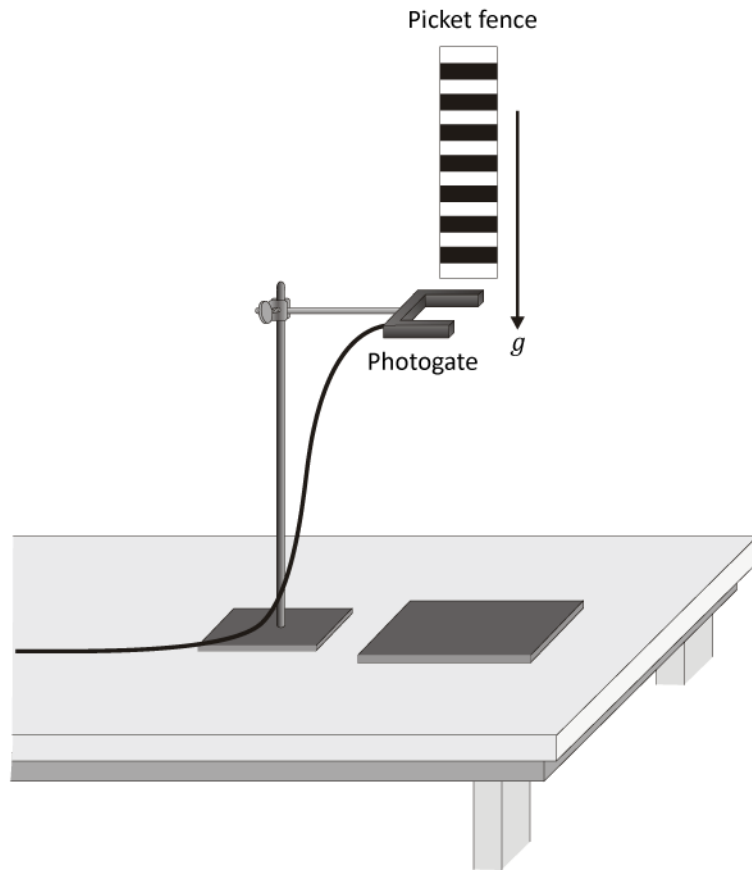

Figure 1 - Picket fence free falling through a photogate
In this experiment, you will have the advantage of using a very precise timer connected to the computer and a photogate (see Figure 1). The photogate has a beam of infrared light that travels from one of its arms to the other. The Logger Pro software can detect whenever this beam is blocked. You will drop a piece of clear plastic with evenly spaced black bars on it, called a *Picket Fence*, through the photogate. As the Picket Fence passes through the photogate's arms, the computer will measure the time from the leading edge of one bar blocking the beam until the leading edge of the next bar blocks the beam. This timing continues as all eight bars on the fence pass through the photogate. From these measured times, the software will calculate the velocities and accelerations for this motion. Using a graph of  $v$  vs.  $t$ , you will analyse your data and use a linear regression tool to determine the value of the gravitational acceleration  $g$ .
In this experiment, you will use the Logger Pro software to record the elapsed time between some regularly occurring events. As illustrated in Figure 1, a picket fence (a strip of clear plastic with evenly spaced dark bands) is free falling through a photogate, a device that notes when the infrared beam of the photogate is blocked by a dark band and measures the time elapsed between successive blocked states. The software uses these times and the known distance from the leading edge of a dark band to the next to determine the velocity of the picket fence as it falls through the photogate. You will be trying to figure out how the elapsed time from blocked state to blocked state changes as the picket fence accelerates in free fall through the photogate.
*Step 3.* Make sure that the arms of the photogate are horizontal as in Figure 1.